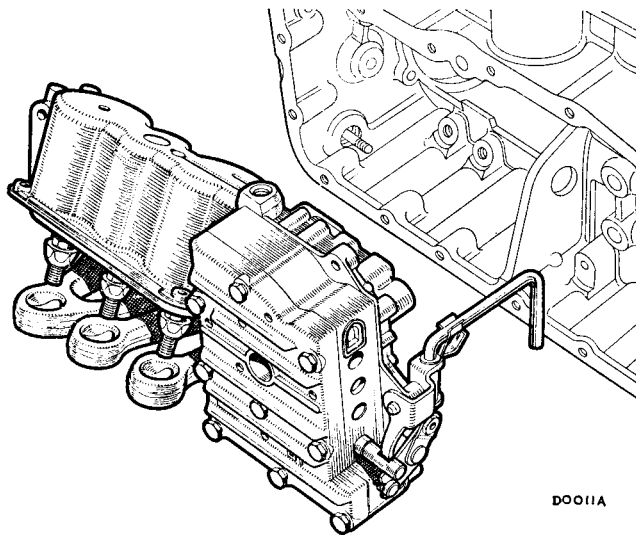

Fig. Fa.11
15. Remove the valve block and servo unit securing bolts. Depress the tops of the bands and unhook them from the servos and lift out the valve block and servo unit as an assembly (Fig. Fa.11).